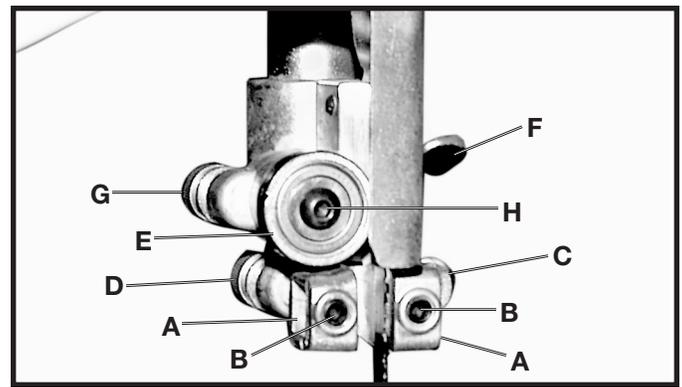

Fig. 55
4. Adjust the guides (A) Fig. 55 so that the front edge of the guides are just behind the "gullets" of the saw teeth. The complete guide block bracket can be moved in or out by loosening the thumb screw (C) and turning the knurled knob (D) Fig. 55. When the guides (A) are set properly, tighten thumb screw (C).
5. Two set screws (B) Fig. 55 hold the upper blade guides (A) in place. Loosen the set screws (B) to move the guides (A). Place them as close as possible to the side of the blade. (Be careful not to pinch the blade). Tighten the screws (B).
6. When the blade guide wears to a point that it cannot be adjusted close to the blade, loosen screw (B) Fig. 55 and reverse the blade guides (A) Fig. 55.
7. The upper blade support bearing (E) Fig. 55 prevents damage to the set in the saw teeth by keeping the blade from being pushed too far toward the back. The support bearing (E) should be set $1/64$ " behind the blade by loosening the thumb screw (F) and turning the knurled knob (G) to move the support bearing (E) in or out.
8. Adjust the blade support bearing (E) so that the back edge of the blade overlaps the outside diameter of the ball bearing by about $1/16$ ". The bearing (E) is set on an eccentric. To change the position, remove the screw (H) and bearing (E) Fig. 55. Loosen the thumb screw (F), back out the knurled knob from the set screw. Remove the hex shaft from the hole, and rotate it to move the eccentric for the bearing.